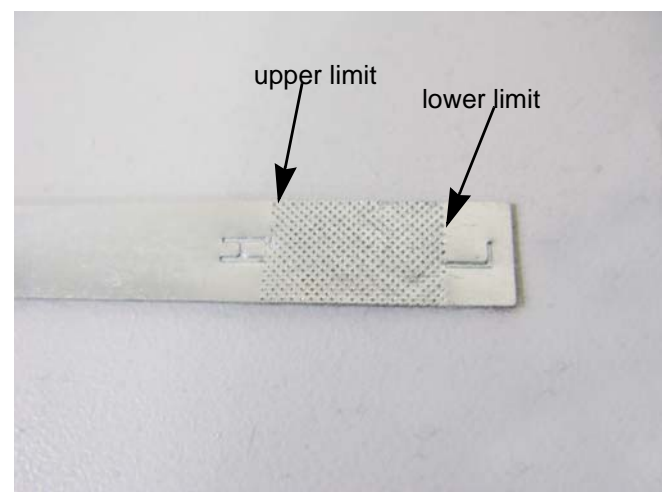

Figure 5.3
3. Pull the dip stick out again and read the oil level. See Figure 5.3.